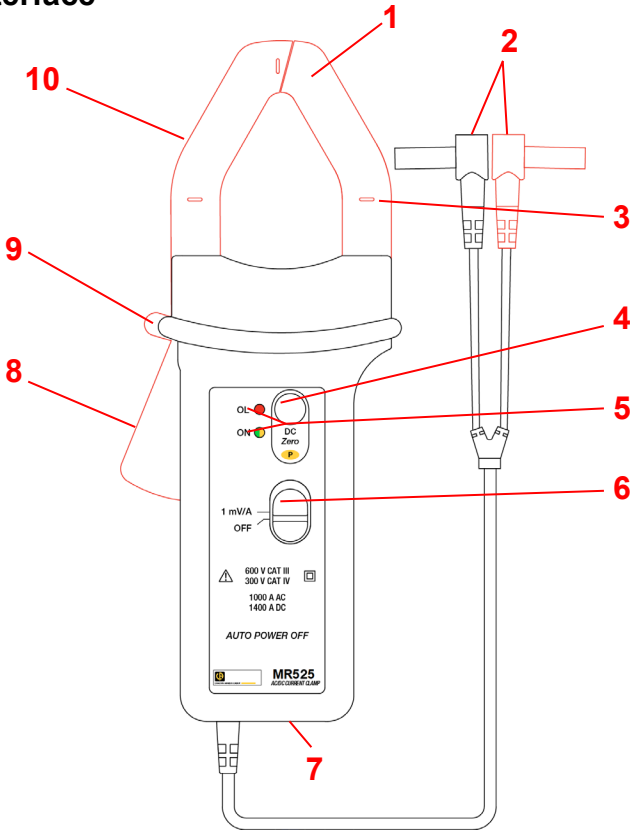

Figure 1 (MR525 shown)
2. Clamp the jaws around the conductor to be measured. Use the centering marks on the jaws to position the clamp around the conductor. If the measurement is to be used in a power calculation, ensure the arrow on the clamp jaws (see Figure 1) points in the direction of the current flow: source  $\Rightarrow$  load.